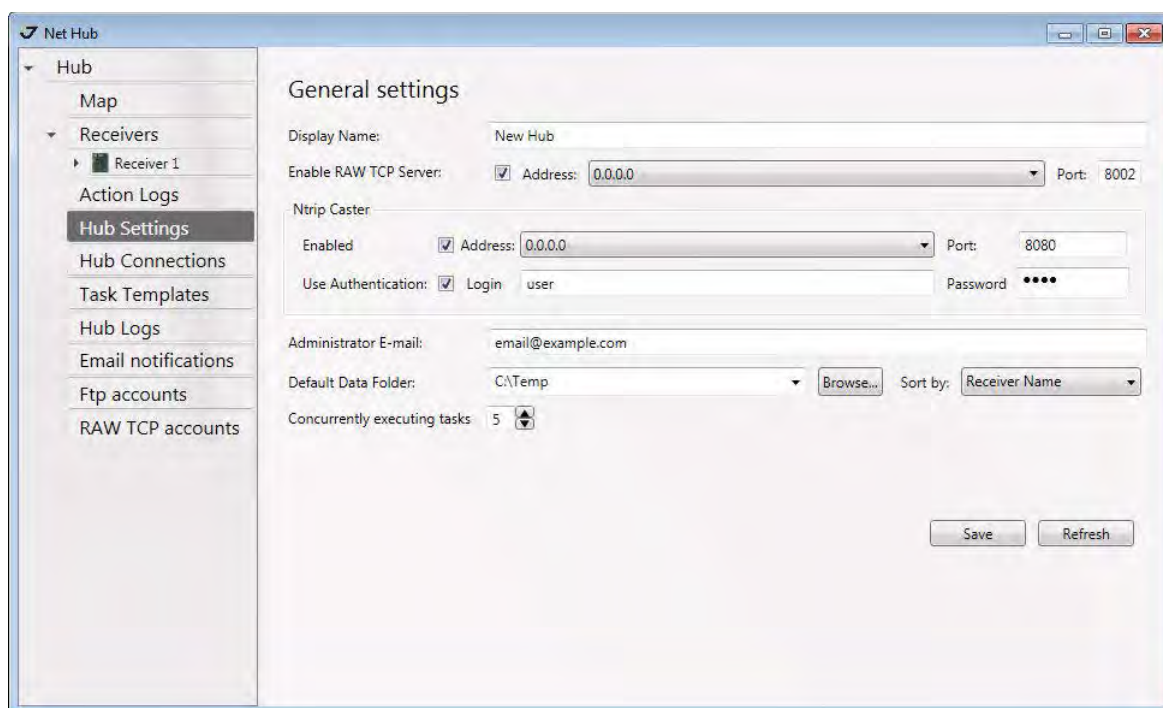

Figure 2-1. Hub Settings window
The server main settings for the incoming TCP connections and automatic tasks can be specified in the *Hub Settings* window (Figure 2-1).
1. Enable *TCP Incoming* on the *Hub Settings* window, set the address and port (see Figure 2-1 on page 17).